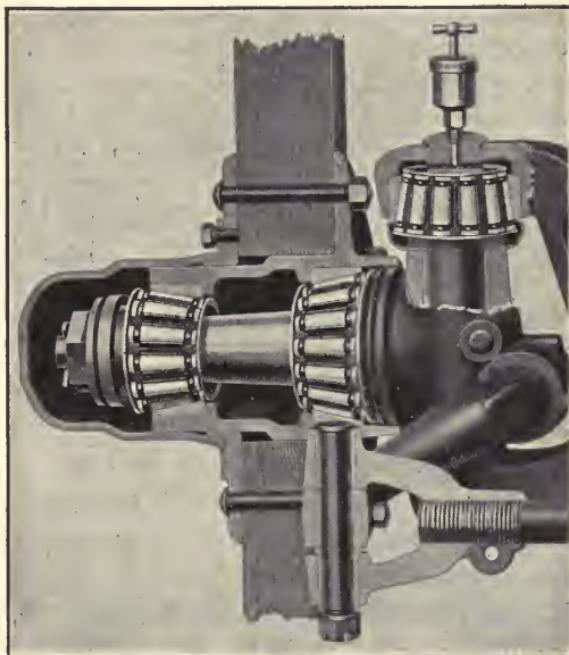

FIG. 110.—Timken roller bearings. As used in the front wheel of an automobile.
6. Four men raise an anchor weighing $1\frac{1}{2}$ tons, with a capstan (see Fig. 110) having a barrel 9 in. in diameter. The circle described by the hand-spikes is $13\frac{1}{2}$ ft. in diameter. How much force must each man exert?
and S would be greater than between R and T. In R and S the surfaces will fit closer together than in R and T. The *use of different materials will reduce friction*. The iron axles of car wheels revolve in bearings of brass. Jewels are used in watches for the same reason. (c) Another very common method of reducing friction is by the use of *lubricants*. The oil or grease used fills up the irregularities of the bearing surfaces and separates them. *Rolling friction* is frequently substituted for sliding friction by the use of ball and roller bearings. These are used in many machines as in bicycles, automobiles, sewing machines, etc. (See Fig. 110.)